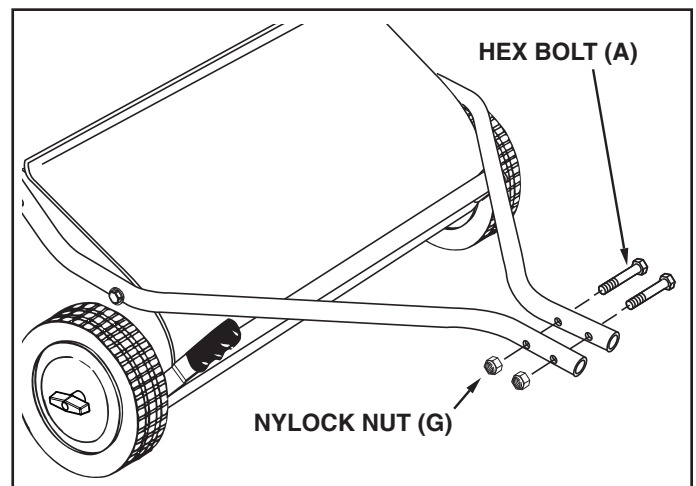

FIGURE 7
STEP 8: (SEE FIGURE 7)
- Fasten the hitch tubes together using two hex bolts (A) and nylock nuts (G). **Do not tighten yet.**